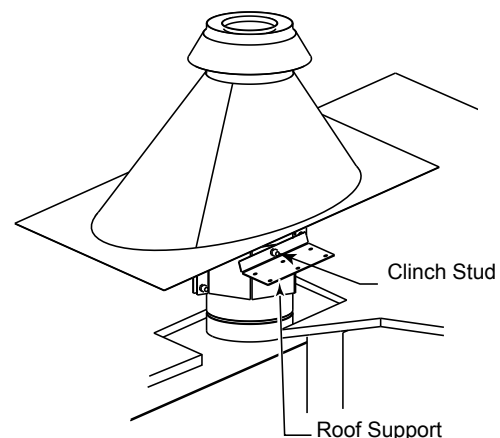

Figure 58 – Roof Support
- Fasten the roof support to the roof sheathing using 2" wood screws provided. *Figure 58*. Ensure that the termination pipe is centered and has a minimum of 1" clearance on all sides from combustible materials. *Figure 59*